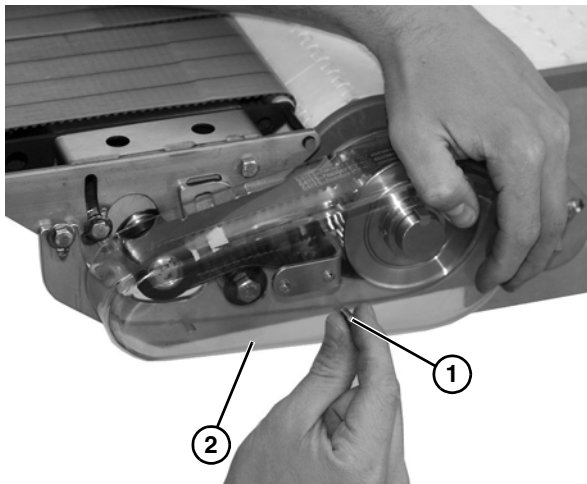

Figure 23
1. Remove two (2) screws (Figure 23, item 1) and cover (Figure 23, item 2).
3. Lift power transfer assembly (Figure 23, item 2) from side plates (Figure 23, item 3).